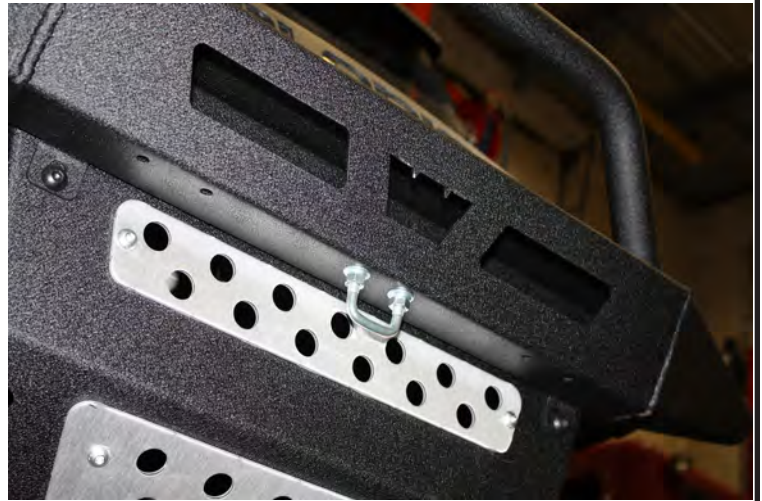

Figure 8
9. When using the WARN bumper, attach to the square u-bolt that you attach the bottom of the bumper to. See exploded view in parts list. See Figure 8.